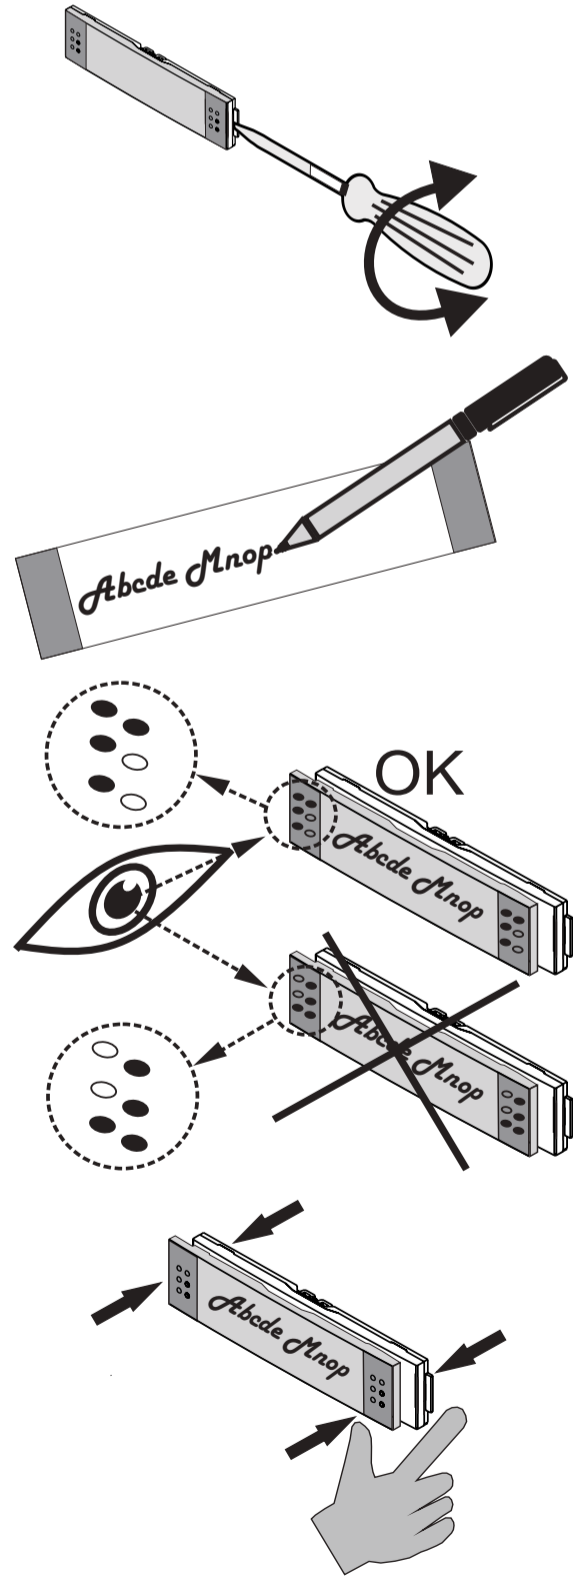

Fig. 7a
- Complete the installation of the mechanical parts (buttons, blank buttons, hood cover, etc., figure 7a and 7b).